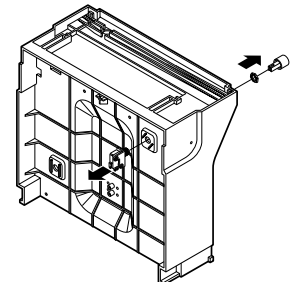

Figure 12
2. Turn the nut left and take off the micro switch from the barrier. (See Figure 12)